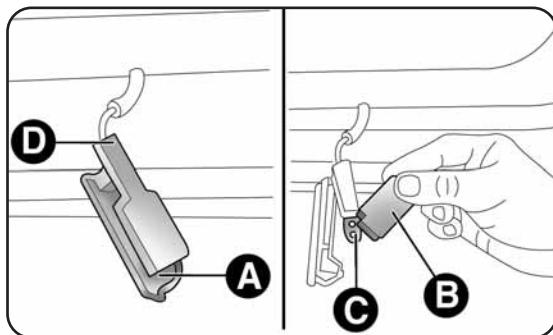

fig. 38
- open the door and remove the light by pushing on tab A-fig. 38 with a screwdriver;